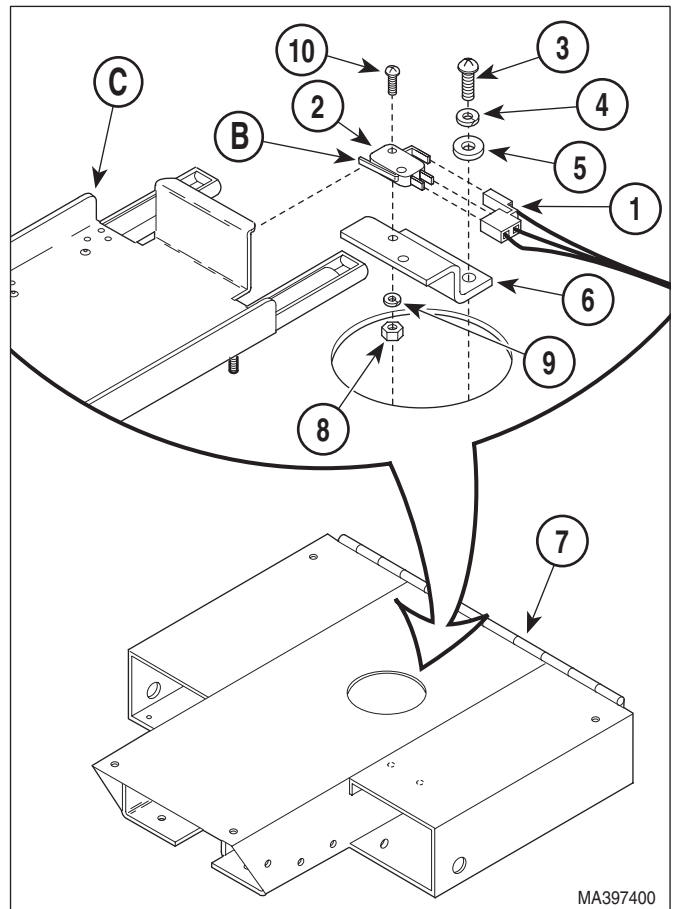

Figure 4-26. Pan Safety Limit Switch Removal / Installation
- (4) Remove upholstered seat and back section (Refer to steps 4 thru 8 of para 4.25).
- (5) Disconnect wire harness (1, Figure 4-26) from pan safety limit switch (2).
- (6) Remove two screws (3), lockwashers (4), washers (5), and pan safety limit switch (2)/ bracket (6) as an assembly from seat weldment (7).
- (7) Remove two nuts (8), lockwashers (9), screws (10), and pan safety limit switch (2) from bracket (6).
- (1) Install pan safety limit switch (2, Figure 4-26) on bracket (6) and secure with two screws (10), lockwashers (9), and two nuts (8).
- (2) Install bracket (6) and pan safety limit switch (2) as an assembly on seat weldment (7) and secure with two washers (5), lockwashers (4), and screws (3). Do not tighten screws fully.
- (3) Push pan slide assembly (A) inward until it "locks" into its fully stowed position.
- (4) Slide bracket (6) toward rear panel of pan slide assembly until trip arm (B) of pan safety limit switch (2) is firmly tripped by pan slide assembly. Tighten two screws (3).
- (5) Connect wire harness (1) to pan safety limit switch (2).